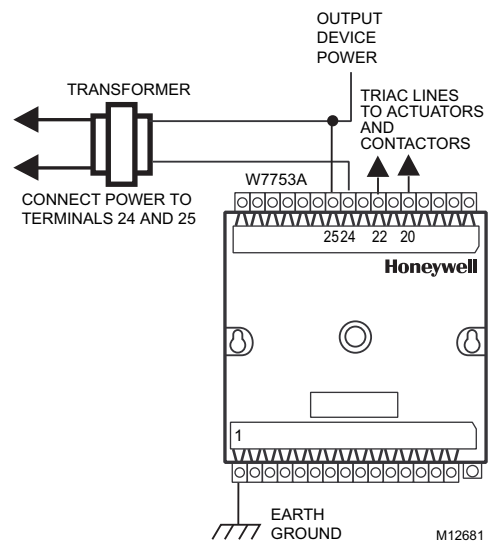

Fig. 4. Power wiring details; one Excel 10 per transformer.
A transformer that meets CE mark requirements and that meets the Low Voltage Directive (LVD) requirements must be used in Europe for all installations of this product. More than one W7753A Controller can be powered by a single transformer. Fig. 4 shows power wiring details for a single controller and Fig. 5 depicts multiple controllers using one transformer.
- Controller wiring. Be sure that each controller is wired (terminal 1) on the W7753A to a verified earth ground using a wire run as short as possible with the heaviest gauge wire available, up to 14 AWG (2.0 mm²) with a minimum of 18 AWG (1.0 mm²) for each controller in the group. See Fig. 4.